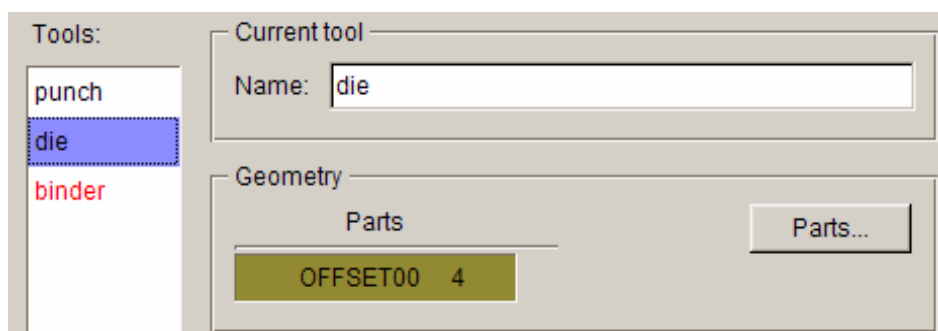

Figure 7.22 Die definition interface
19. From the DEFINE GEOEMTRY dialog box, click **Exit** button to return to tool definition interface. Now, the tag color of all tools is changed red into black. It means all tools have been defined. See figure 7.22.